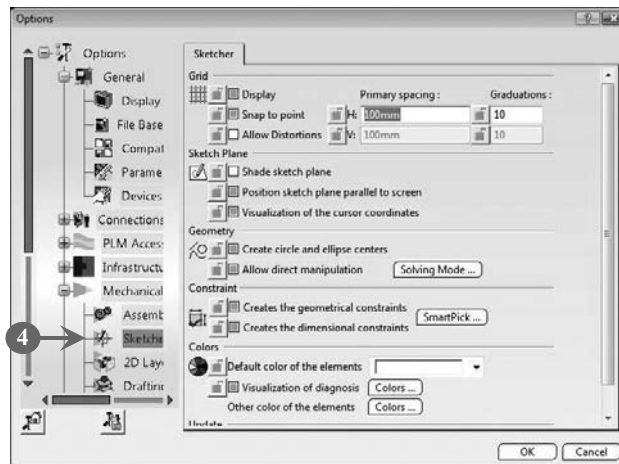

FIGURE 2.5
4. Select the **Sketcher** option present under the **Mechanical Design** node. The **Sketcher** tab opens, as shown in **Figure 2.5**: